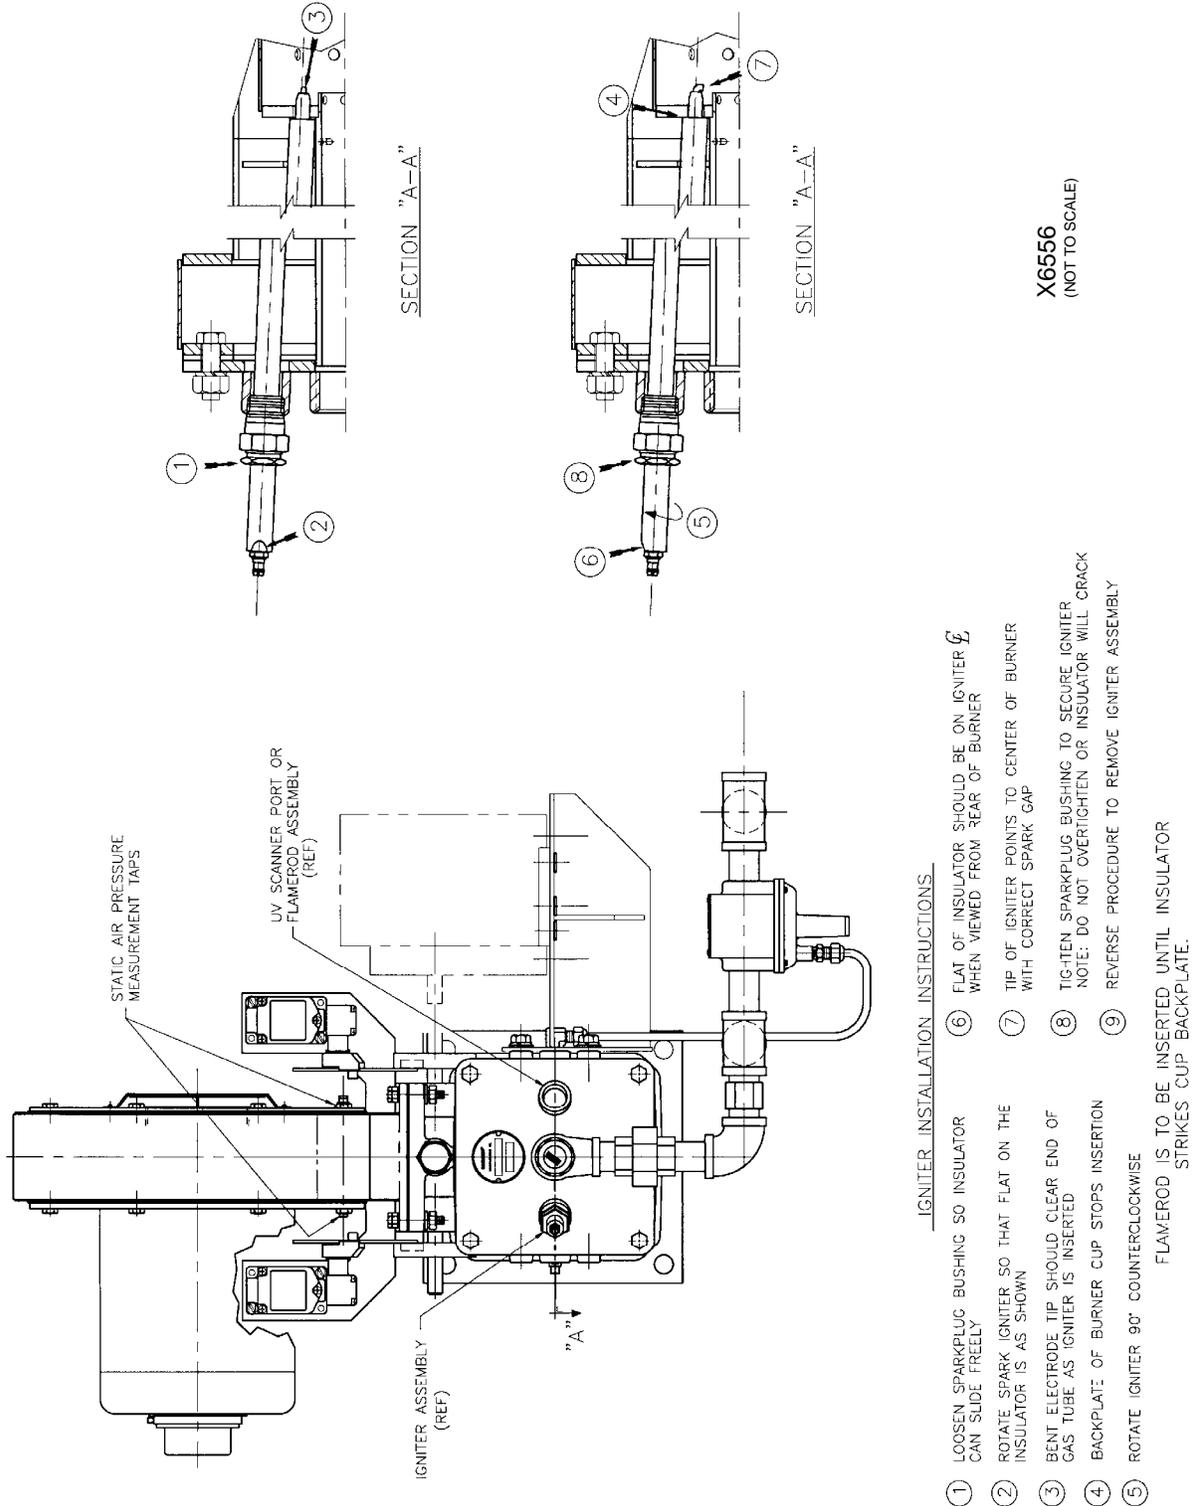

Figure 1. Spark Igniter Installation
Each PBG comes equipped with a spark igniter. Since PBG burners are preset, no adjustment to the igniter should be necessary upon initial light-off. However, if ignition problems occur or a new igniter is installed, follow the procedure in Figure 1 to replace and adjust the igniter. Spark ignition requires the burner to be properly grounded to the oven/furnace.
6. Should it become necessary to remove the spark igniter for cleaning or inspection, the spark igniter must be inserted with the proper orientation to ensure ignition (see Figure 1). The flame rod, if used, inserts the same way as the spark igniter (see Figure 1), however, no particular orientation is required.